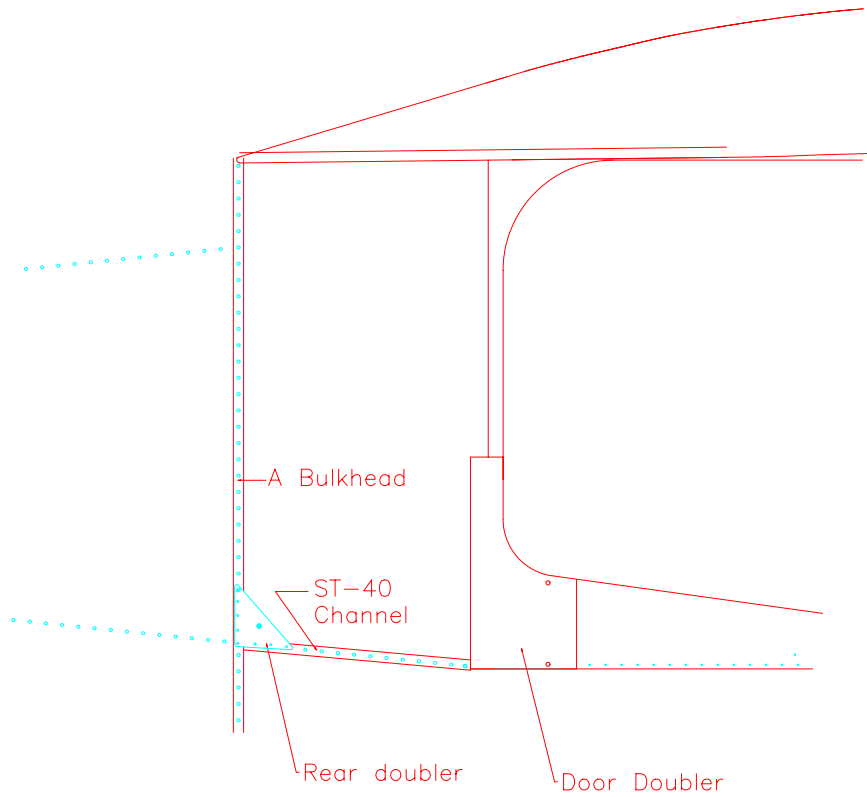

Figure 15.7.4
- 3) Put the doublers in, on the inside of the pilots door and drill #30 holes for attachment to the fuselage. See Figure 15.7.4 for locations of the gussets.